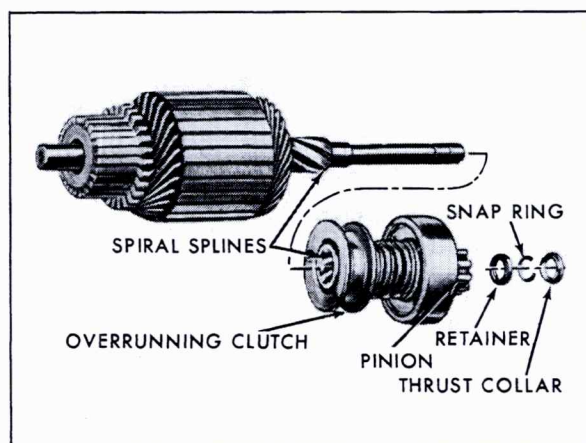

Fig. 6-16 Starter Armature Assembly
- a. Slide thrust collar off end of armature shaft, Fig. 6-16.
- b. Slide a standard 3/8" pipe coupling or 5/8" deep well socket onto shaft so end of coupling or socket butts against edge of retainer, Fig. 6-16. Tap end of coupling or socket with hammer, driving retainer toward armature and off snap ring.